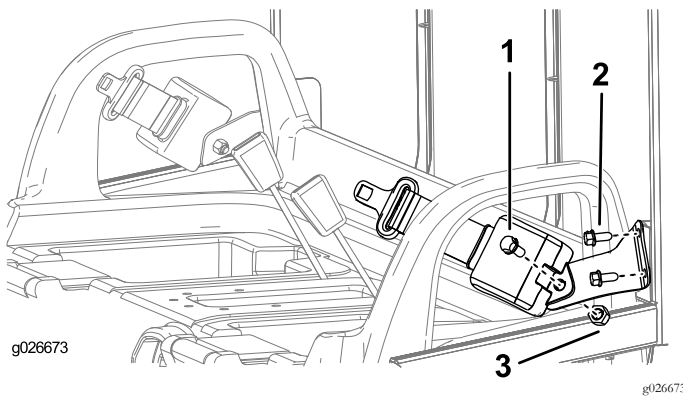

Figure 8
1. Mount a seat belt bracket to each ROPS tab with 2 bolts (3/8 inch) as shown in Figure 8.
3. Mount the retractable end of each seat-belt assembly to each seat-belt anchor bracket with a bolt (7/16 inch) and a nut (7/16 inch) as shown in Figure 8.